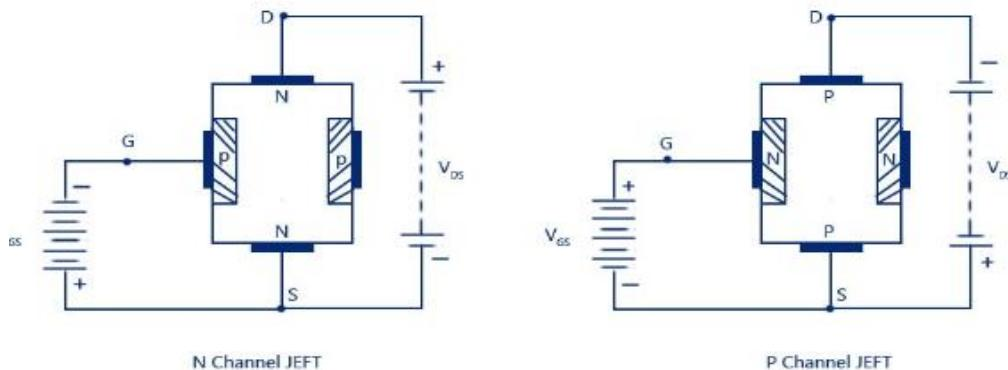

Fig. 4.3 Polarities of JFET
- Fig.4.3 shows the n-channel JFET polarities and the p-channel JFET polarities.